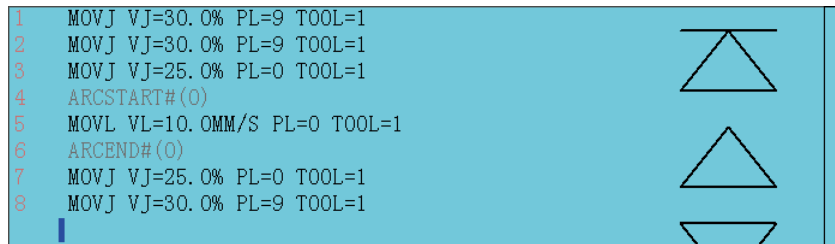

Fig.8.3
2. Double click the "5555" program or click the **【Open】** key in the submenu to open the program and enter the program editing interface. As shown in Fig.8.3.